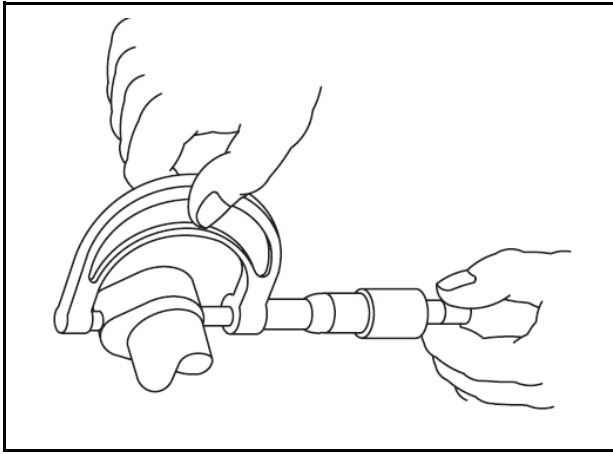

Fig.11-Checking Camshaft Lobes
1. Measure camshaft lobe height, Fig.11. If lobes are not to specification, replace the camshaft.